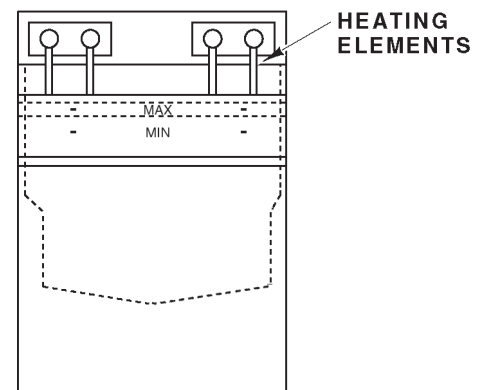

Fig. 2
2. Shortening level should be between the MIN and MAX lines in fry tank (Fig. 2). Shortening will expand when heated; do not fill the fry tank past the MAX line.